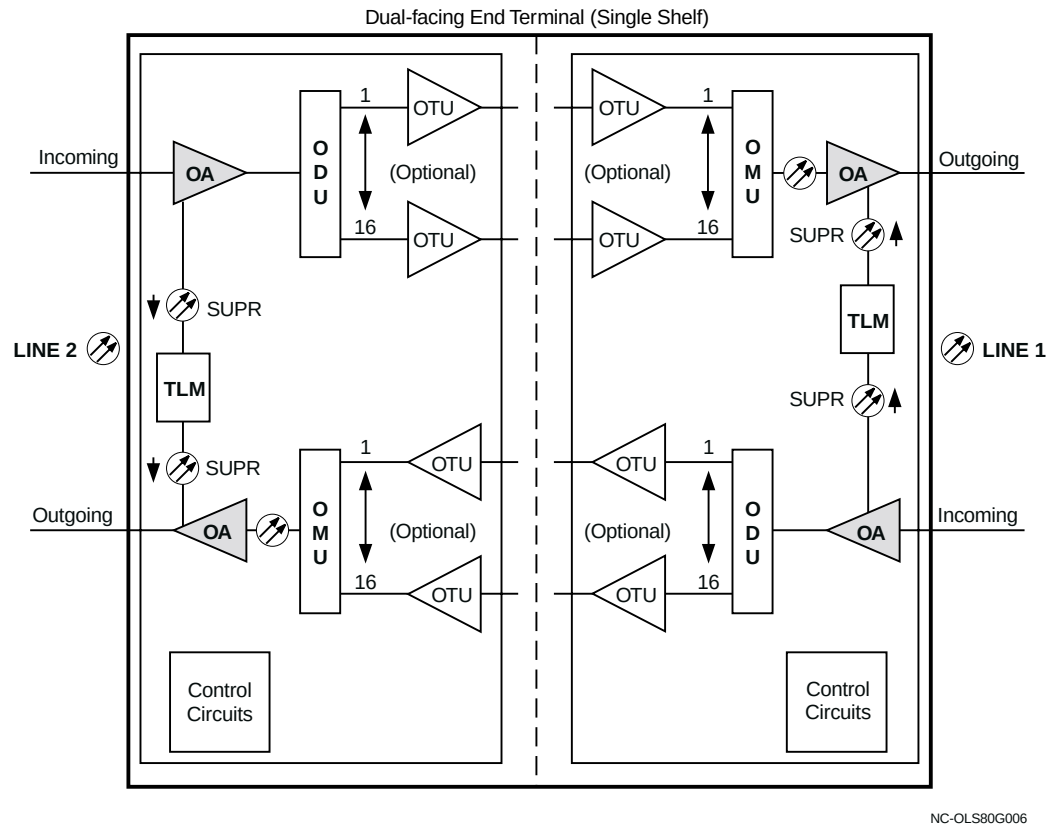

Figure 2-4. Two-OA/Two-OA Dual-facing Shelf*
Figure 2-4 illustrates a dual-facing shelf configuration utilizing two OA circuit packs on both bidirectional lines.
* In Figure 2-4 (Optional) denotes that OTUs are not required when the transmitter/receiver of the optical channel source are OLS-compatible. The label OTU is used here to refer to OC-48/STM-16 OTUs or GbE OTUs or OC-12/STM-4 OTPMs or OC-3/STM-1 OTPMs, or LSBB OTPMs.